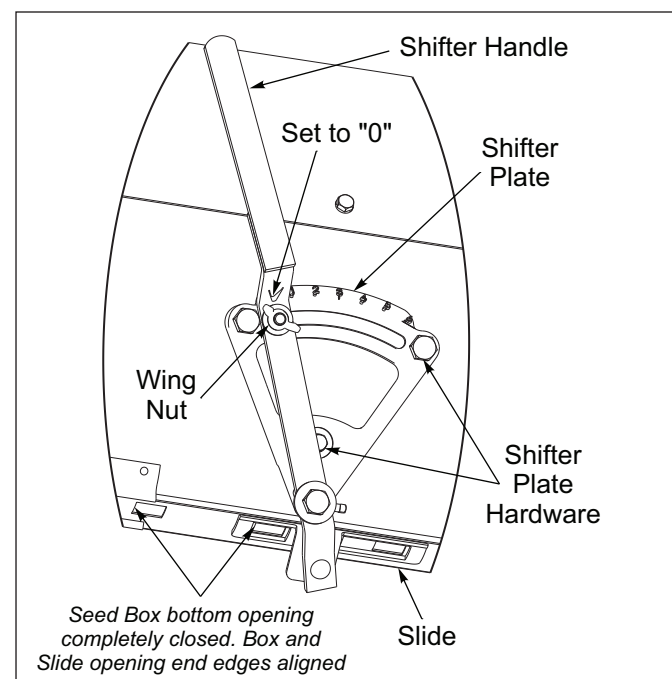

Figure 4-11: Shifter Handle Position at "0"
- Shift the Shifter Handle to "0". The Agitator Box bottom opening should be fully closed. **See Figure 4-11.**